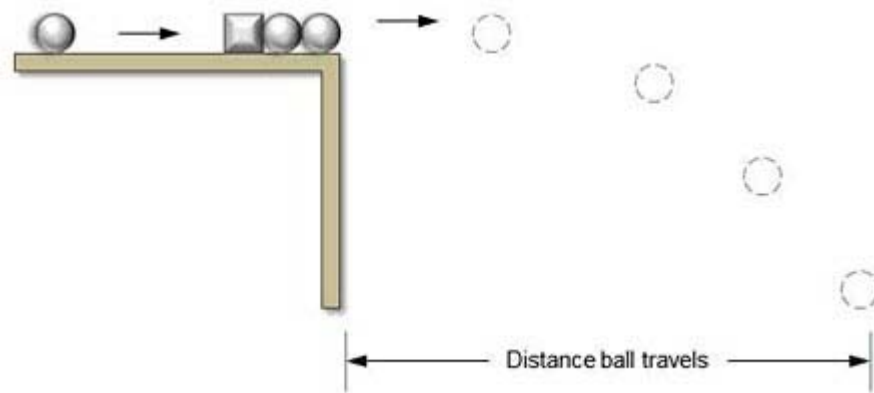

Figure 1. A one-magnet stage Gauss rifle.
1. Place the wood slide on the table with the glued side down. Put one neodymium magnet on the slide, toward one end. Place two ball bearings on one side of the magnets such that the last ball is at the end of slide. See Figure 1. This step is represented by the magnet and ball bearings on right edge of the table in the figure.
3. Place the wood slide on the table so that the end of the slide is flush with the end of the table. See Figure 1.
1. Practice launching the Gauss rifle so that you can place the plastic box at the correct distance for accurate measurements, as follows. Your experiment will look something like Figure 1.